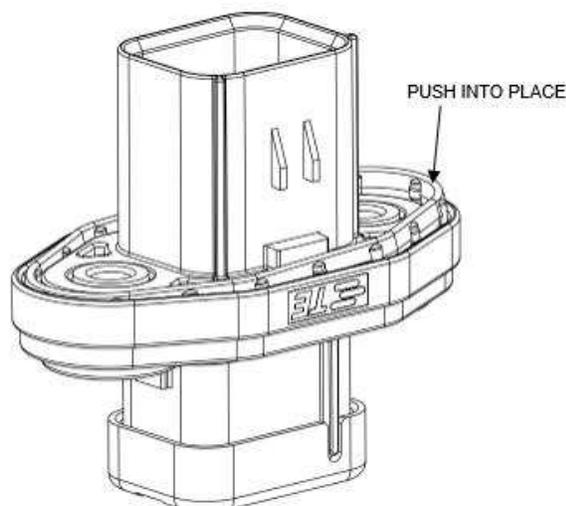

Figure 14.
- ii. If the flange seal has become dislodged, simply push on the seal with a clean finger until the seal bottoms in the seal groove as shown in Figure 14.